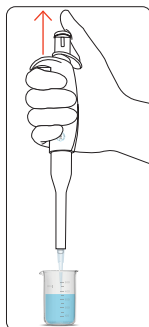

Figure 7. Hold the pipette vertically to aspirate
▶ While pipetting, hold the pipette vertically, so that the tip does not touch the vessel wall. (figure 7)
► While pipetting, hold the pipette vertically, so that the tip does not touch the vessel wall. (figure 7)